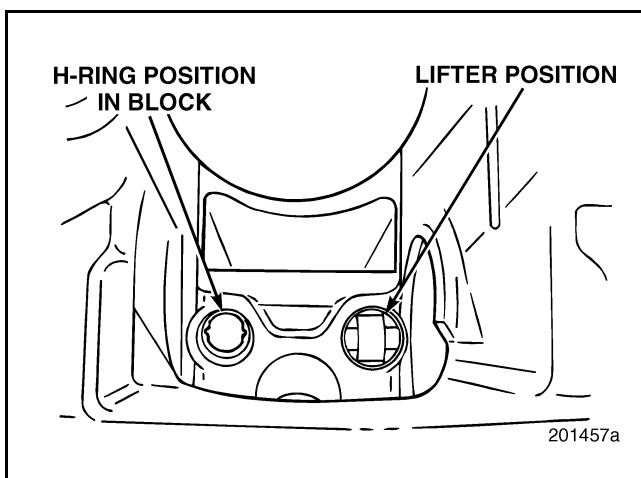

Figure 259 — Installed Valve Lifter
4. Make sure that the lifter flats are aligned with the H-ring flats (Figure 259) and that the lifters are fully seated against the H-rings. Once installed, it should be possible to rotate lifters slightly from left to right.